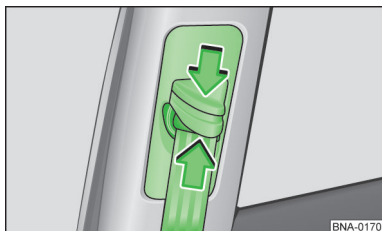

Fig. 25
- > Squeeze and hold the height adjuster in the desired direction of the arrows » fig. 25.